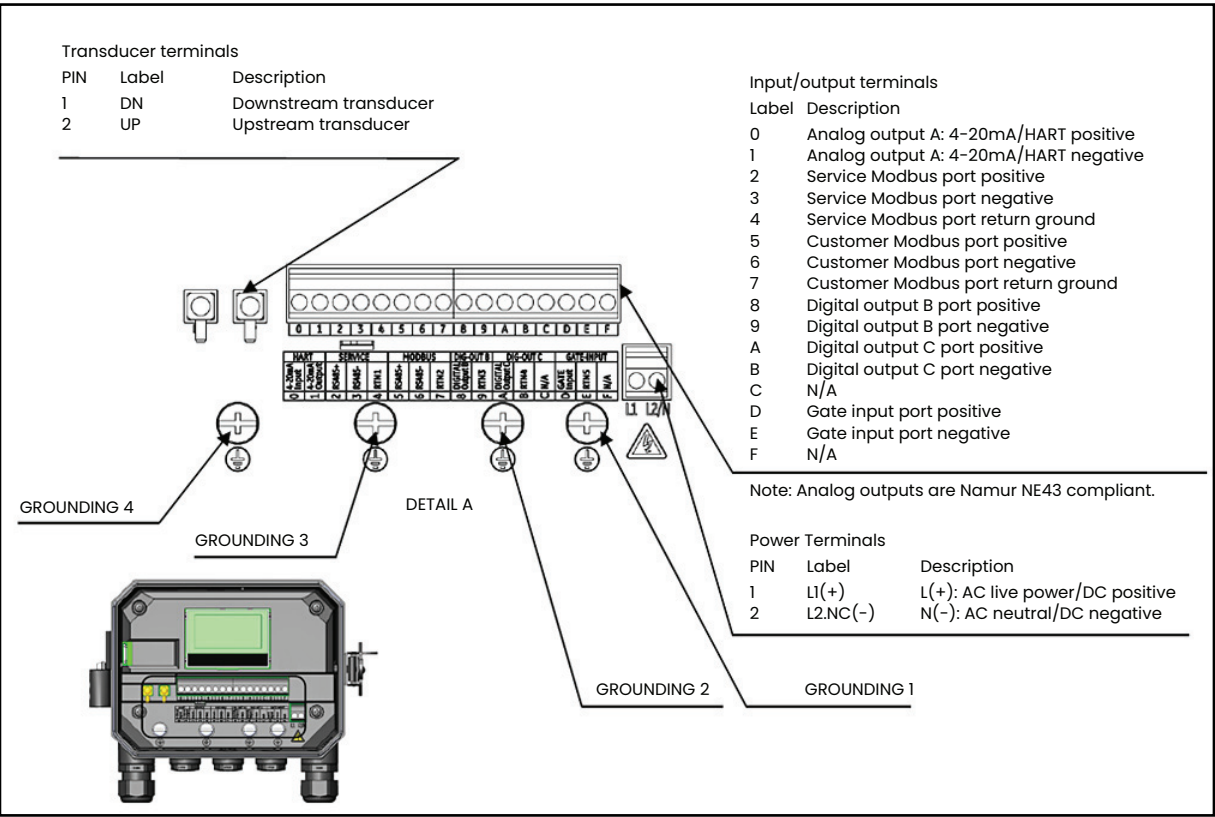
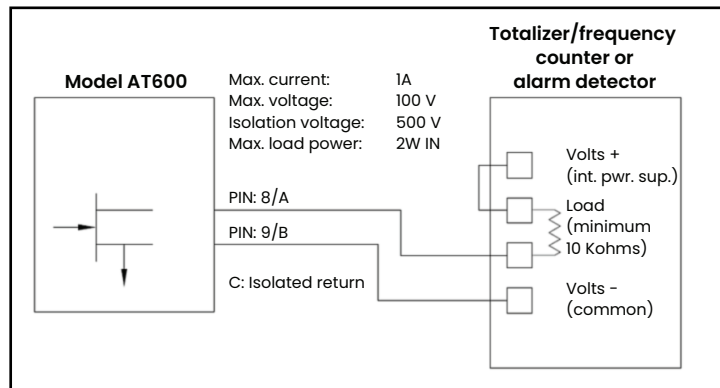
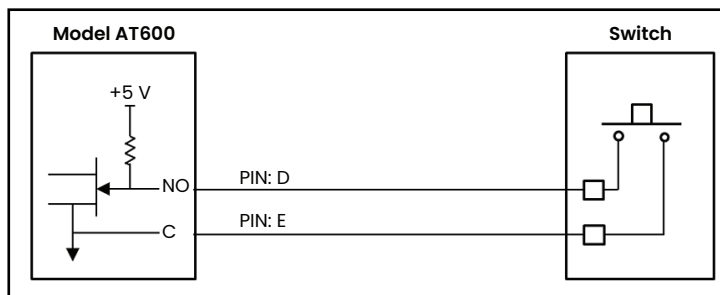

Figure 23: Wiring diagram
Figure 28: Totalizer/frequency/alarm output wiring
Figure 29: Gate input wiring
2. Connect the power and transducer cables to the AT600, as shown in Figure 23 on page 19
This section includes instructions for making all the necessary electrical connections to the AT600 flow meter. Refer to figure 23 below for the complete wiring diagram of the meter.
Refer to Figure 23 on page 19 to locate the terminal block and connect the line power as follows:
2. Connect the ground lead to the internal ground connection (GROUNDING 1) located on the bottom panel of the electronics enclosure (See Figure 23 on page 19).
3. Connect the neutral AC lead (or the negative – DC lead) to L2/N(–) and the AC line lead (or the positive DC lead) to L1(+), as shown in Figure 23 on page 19.
2. Connect the cable connector with yellow DN jacket on the cable to the DN terminal, and connect cable connector with white UP jacket on the cable to the UP terminal, as shown in Figure 23 on page 19.
3. Refer to Figure 23 on page 19 for the location of terminal block I/O, and wire the terminal block as shown above.
To wire the Modbus RS485 serial port, refer to Figure 23 on page 19 above and complete the following steps:
The AT600 can accommodate up to two digital outputs. Each of these outputs can be configured as either a totalizer, frequency or alarm output (see “Programming digital communications” on page 53 for instructions). Each totalizer/frequency/alarm output requires a twisted pair cable. Wire the terminal block as shown in figure 23 on page 23 and figure 28 below.
To wire the Gate input, refer to Figure 23 on page 19 and figure 29 below and complete the following steps: